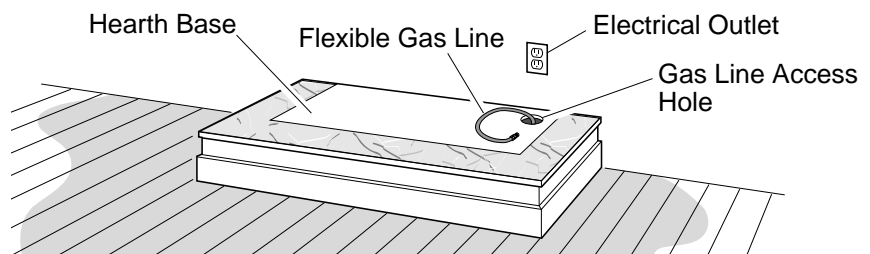

Figure 14 - Placing Hearth Base Accessory Against Wall
4. Place hearth base accessory against wall at installation location. Cut an access hole in hearth top to run flexible gas line to firebox (see Figure 14). Make sure to locate access hole so cabinet mantel will cover it when installed. *Note:* You can secure base to floor using wood screws. Countersink screw heads and putty over.